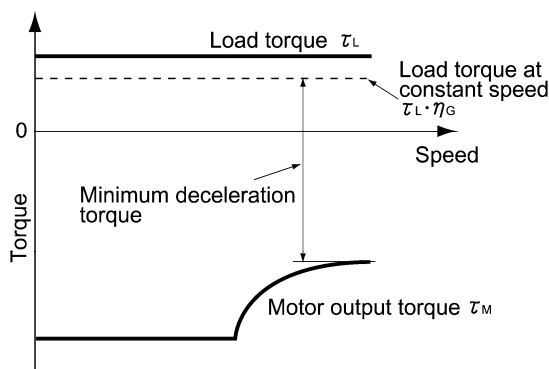
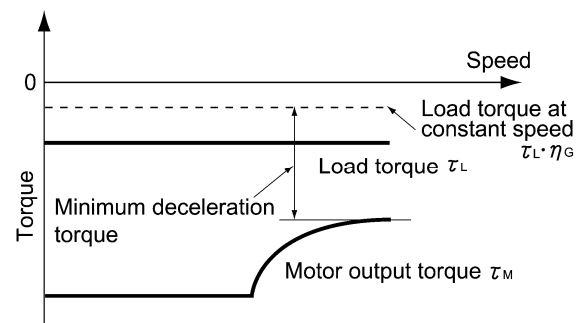

Figure 10.1-5 Example Study of Minimum Deceleration Torque (1)
Figure 10.1-6 Example Study of Minimum Deceleration Torque (2)
- 2) Calculate the **minimum deceleration torque** (See Figure 10.1-5 and Figure 10.1-6)